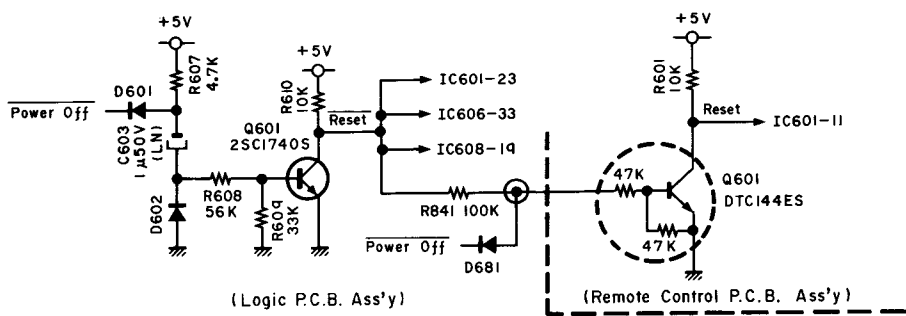

Fig. 3.2 Initial Reset Circuit
3.2. Initial Reset Circuit (Refer to Fig. 3.2.)